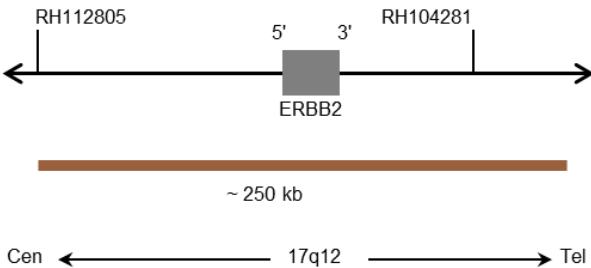

Fig. 1: SPEC ERBB2 probe map (not to scale)
- Digoxigenin-labeled polynucleotides (~1.8 ng/ μ l), which target sequences mapping in 17q12* (chr17:37,725,661-37,973,541) harboring the ERBB2 gene region (see Fig. 1).